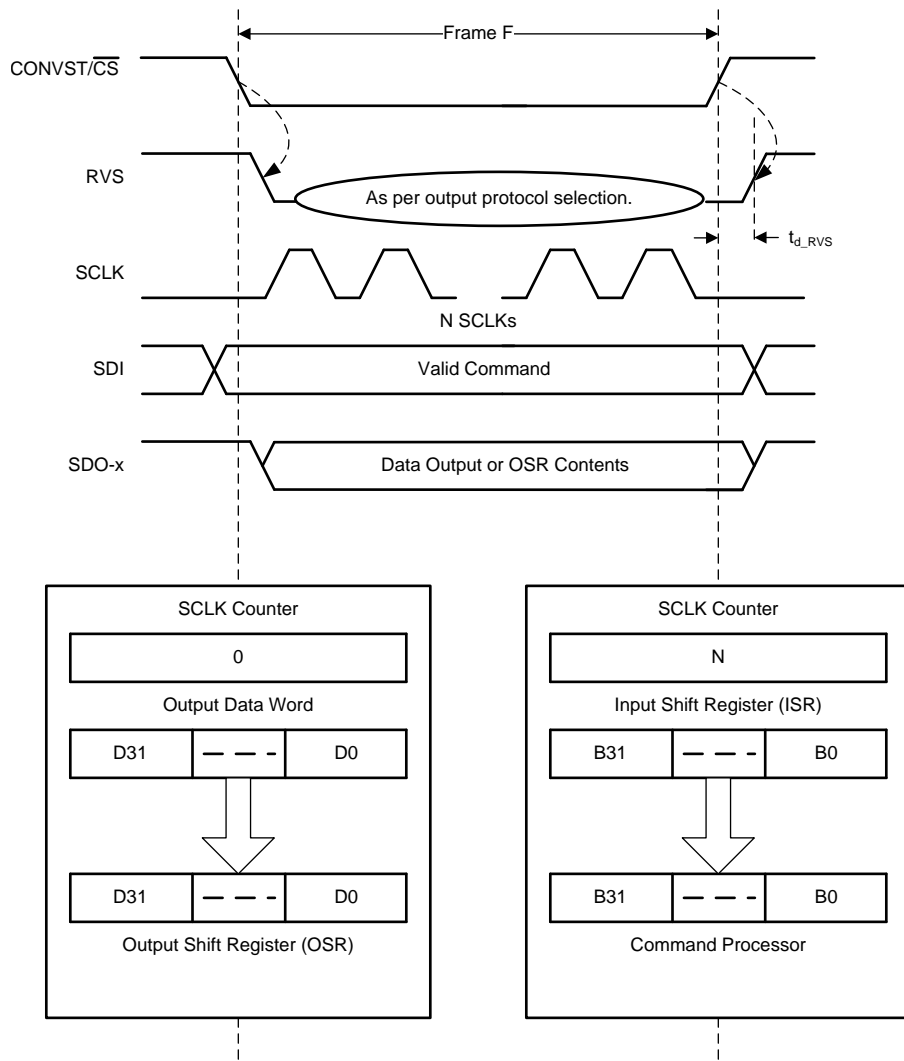

Figure 71. Data Transfer Frame
A data transfer frame between the device and the host controller begins at the falling edge of the CONVST/ $\overline{\text{CS}}$ pin and ends when the device starts conversion at the subsequent rising edge. The host controller can initiate a data transfer frame by bringing the CONVST/ $\overline{\text{CS}}$ signal low (as shown in Figure 71) after the end of the CONV phase, as described in the CONV State section.
- The device takes control of the data bus. As illustrated in Figure 71, the contents of the output data word are loaded into the 32-bit output shift register (OSR).
- As illustrated in Figure 71, the contents of the input shift register are transferred to the command processor for decoding and further action.